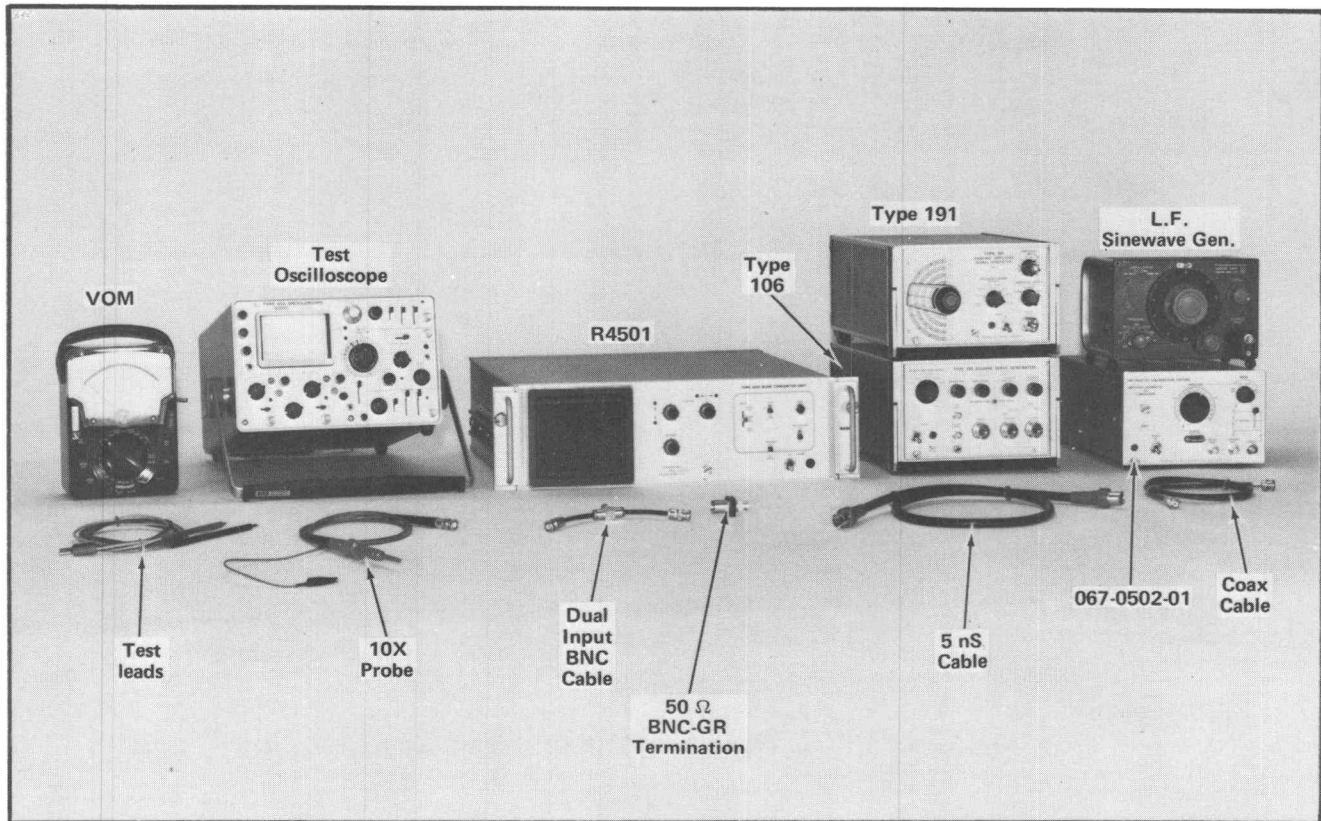

Fig. 5-11. Test equipment required for Z Axis calibration.
a. Test equipment required is shown in Fig. 5-11. Be sure that shorting cap is connected to the $-Z$ input.